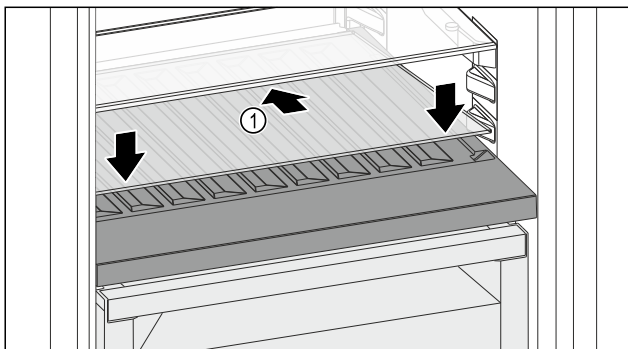

Fig. 116
- Place the glass shelf Fig. 116 (1) at an angle, sloping it downwards and backwards.
- Lower the glass shelf Fig. 116 (1) at the front.